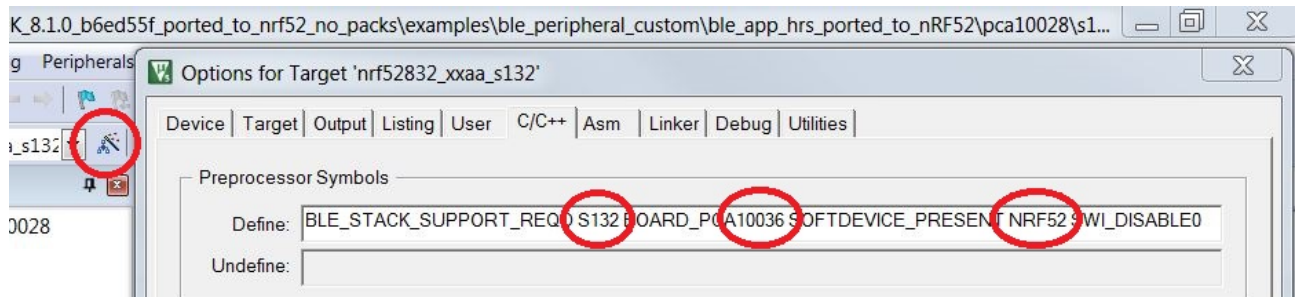

Figure 6: Updating the preprocessor symbols
10. Update the preprocessor symbols as follows, as shown in Figure 6: Updating the preprocessor symbols on page 15: